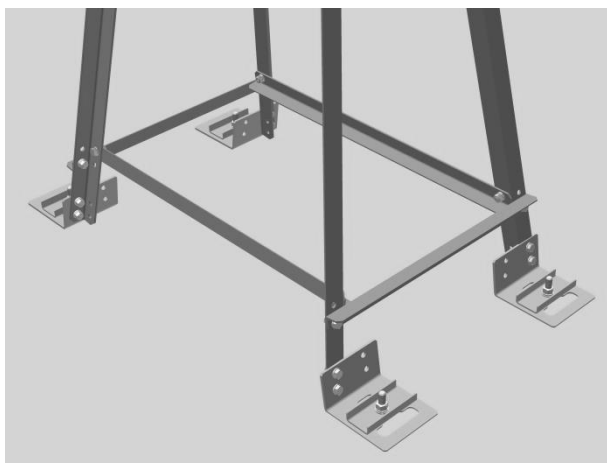

Figure 39
- 558...609 x 1056...1219 mm (Figure 39);